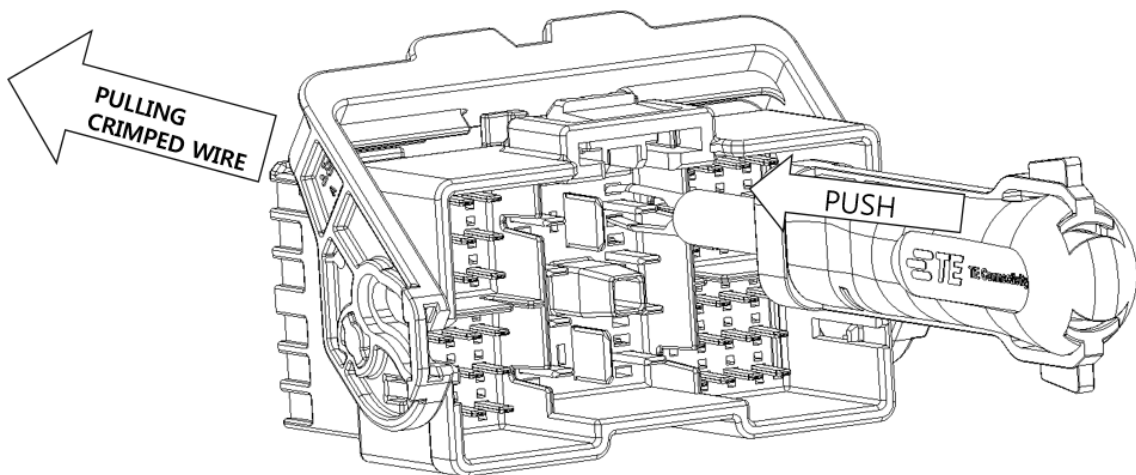

Fig. 14
- (1) Check the retainer status. (Pre-Lock) If retainers is Final Lock status, it should be Pre-Lock status. (See Part.5.1.) The contact cannot be extracted in Final Lock status.
- (2) Insert rework tool to the end of rework hole then, extract the TML with pulling the crimped wire while pressing latch. (See Fig.14)